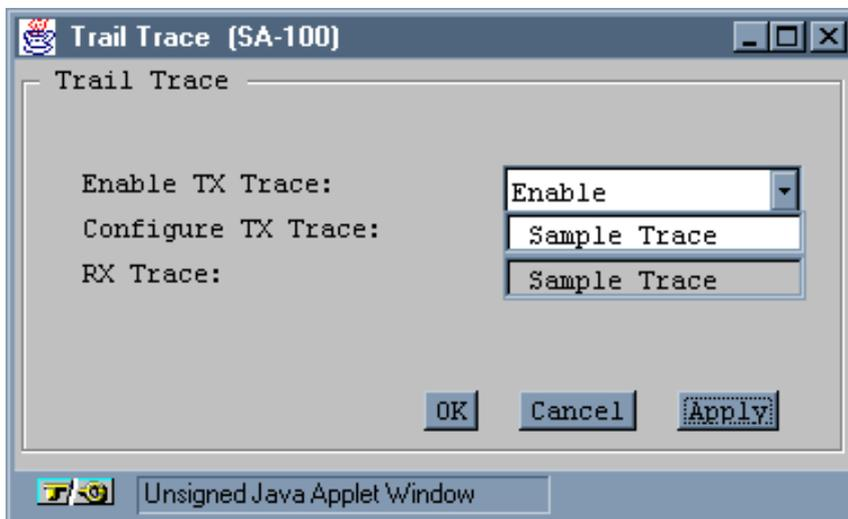

Figure 4-19. Trail Trace Window
1. Select the Trail Trace button from the Configure E3 Port window. The Trail Trace window appears (Figure 4-19):